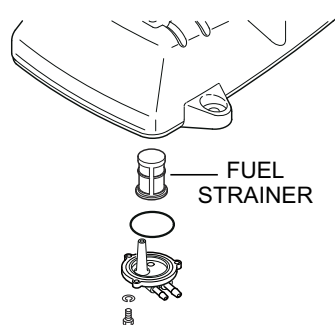

Figure 19. Fuel Strainer
- Inspect and clean fuel strainer (Figure 19). Replace strainer if necessary.